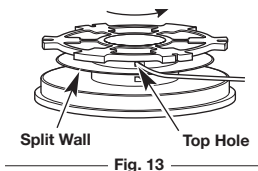
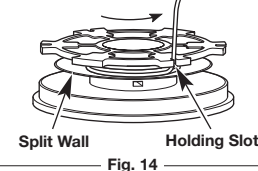

Fig. 13
Fig. 14
2. Insert the end of one line into the top hole in the inner reel (Fig. 13). Wind the line tightly in the direction shown on the bottom of the inner reel until about 6 inches (150 mm) of line remains. Keep the line above the split wall. Insert the 6-inch section into the nearest .095 holding slot (Fig. 14).